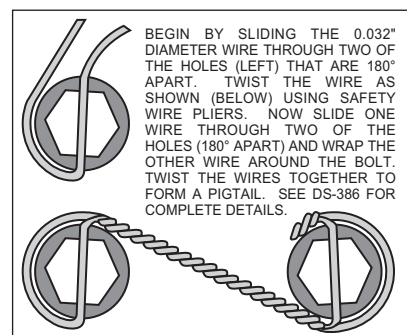

Figure 4. Safety Wire Diagram
•Slide the caliper mounting bracket kit assembly (1) onto the housing flange and then insert the axle assembly through the center hole of the caliper mounting bracket assembly (1) and secure using the stock Original Equipment Manufacturer (OEM) bolts and nuts. Stock OEM hex nuts that retain the caliper mounting bracket assembly (1) should be on the wheel side of the bracket. Apply red *Loctite*® 271 to the stock OEM bolt threads and torque to OEM specifications. Make sure the heads of the caliper mounting bracket assembly (1) insert nuts are FACING OUTWARD TOWARDS THE WHEEL.
•Bolt the hat (2) to the rotor (3) using washers (4) and bolts (5). Torque bolts (5) to 103 in-lb. Safety wire rotor bolts (5) using standard 0.032 inch diameter stainless steel safety wire as shown in Figure 4. Please refer to Wilwood's data sheet DS-386 (available at www.wilwood.com/Pdf/DataSheets/ds386.pdf) for complete safety wire installation instructions.
•Align the correct hole pattern in the hat (2) with the stud pattern on the axle flange. **NOTE:** Some OEM and after market axles come with stud sizes larger than 0.50" diameter. Verify stud size and have a qualified machine shop drill the hats to the correct size. Slide the hat/rotor assembly (2 and 3) over the wheel studs covering the mounting bracket assembly (1) and against the axle flange face.
•**NOTE:** Please reference the caution statement at the beginning of the assembly instructions. WITH THE BLEED SCREWS POINTING UP, mount the caliper (6) over the rotor (3) and onto the caliper mounting bracket (1) using washers (7) and mounting bolts (8). View the rotor through the top opening of the caliper. The rotor should be aligned in the center of the caliper. If not, adjust the caliper by using 0.032 inch shims (9) by placing them between the caliper mounting bracket (1) and the caliper (6). Apply red *Loctite*® 271 to the mounting bolt threads (8), torque to 30 ft-lb. Safety wire the caliper mounting bolts (8).
•Position the Wilwood disc brake pads (10) into the caliper (6) and fasten with cotter pin (11). Steel backing plate side of brake pad should face the caliper pistons.
•**NOTE:** Clevis and cable kits which attach to the parking brake assembly are not included in the Wilwood parking brake kit. Wilwood offers a generic style parking brake cable kit, P/N 330-9371 for this application which can be ordered separately from your local Wilwood dealer or by calling Wilwood customer service at (805) 388-1188.
•Before final installation of the wheel, install a couple of lug nuts and adjust the parking brake shoes outward (using a drum shoe adjustment tool available at your local auto parts store) while spinning the hat (2) until a slight drag is felt against the hat/drum.